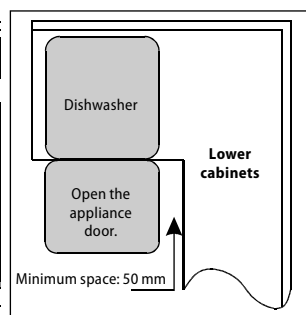

Fig.13
- If the dishwasher is installed in a corner of the lower cabinets, make sure there is a free space around the open dishwasher door 50 mm (Fig. 13).